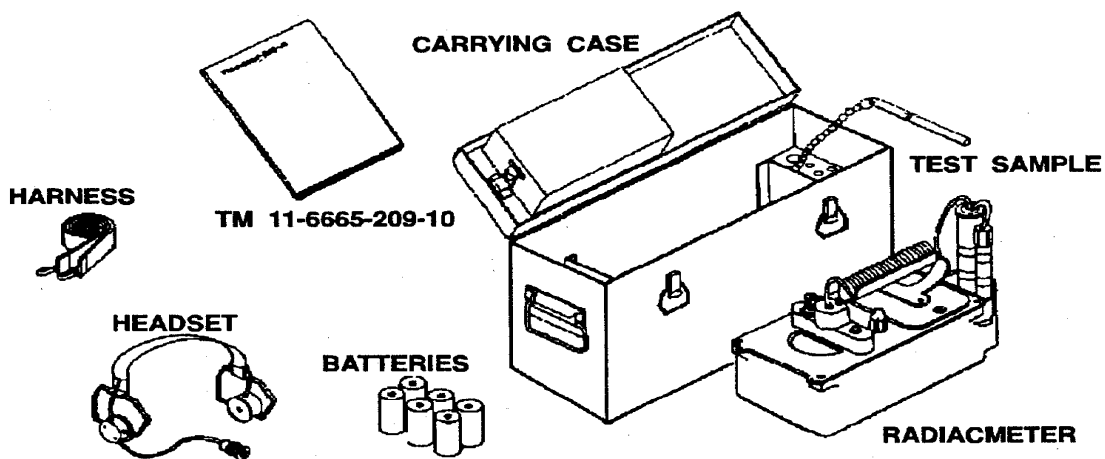

Figure 6-15. AN/PDR27 Radiac Set
g. The AN/PDR27 (Figure 6-15) is designed to detect beta radiation and measure and detect gamma radiation. The AN/PDR27 is used as a point source instrument to monitor low levels of radiation contamination on personnel, supplies, and equipment. It is portable, watertight, lightweight, and rugged. It is issued on a one per divisional company-size combat and combat support unit and as required for medical, maintenance, and bath units and water supply points. See TM 11-6665-209-15 and TM 11-6665-230-15 for further information.